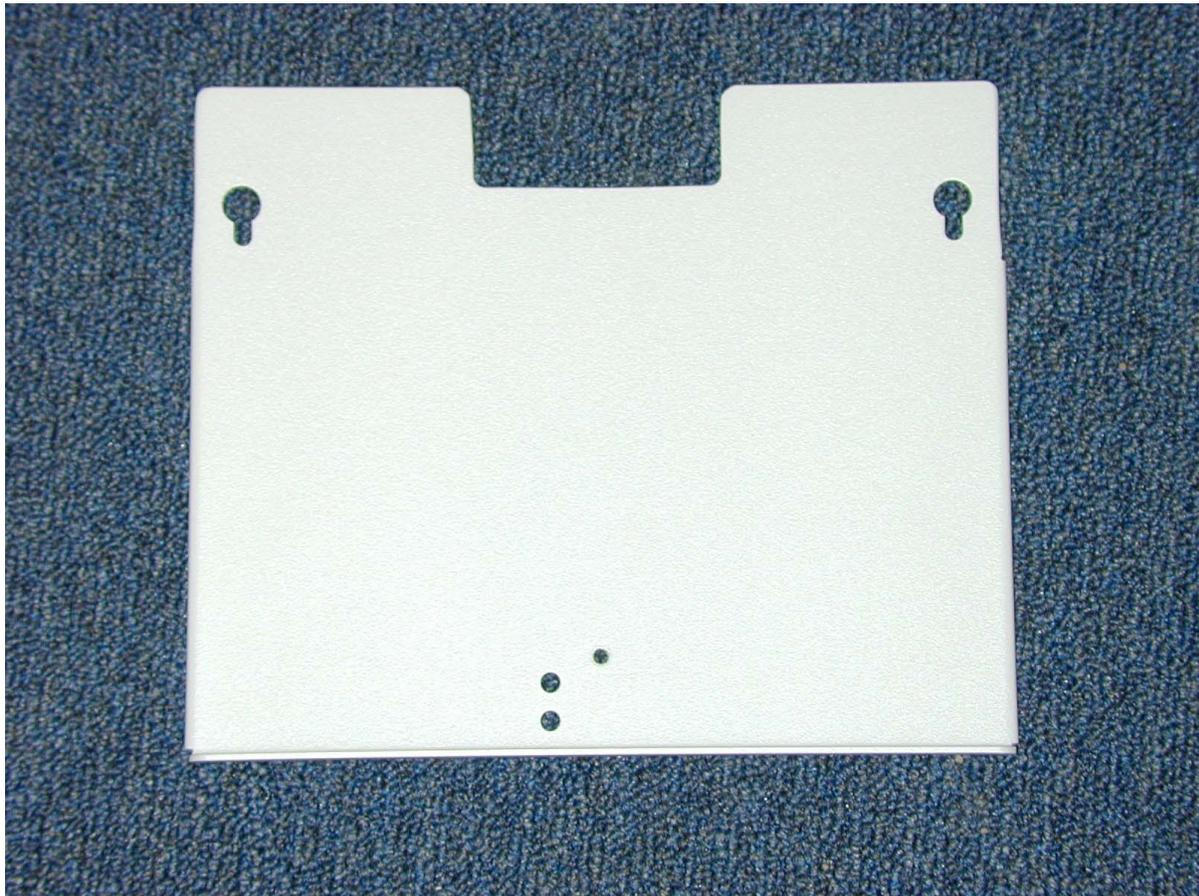
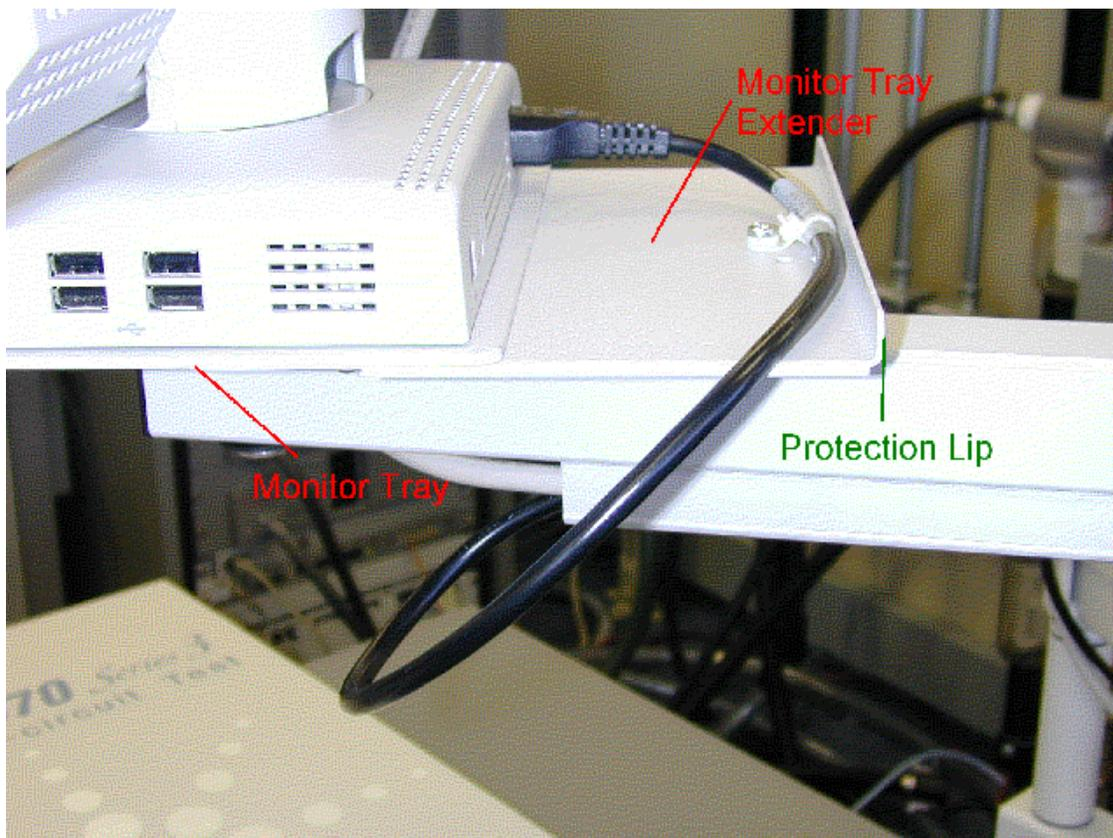

Figure 3.
Figure 4.
3. Attach the Monitor Tray Extender (see figure 3 below), with lip up, to the bottom of the monitor tray as shown in figures 4 and 5 below.